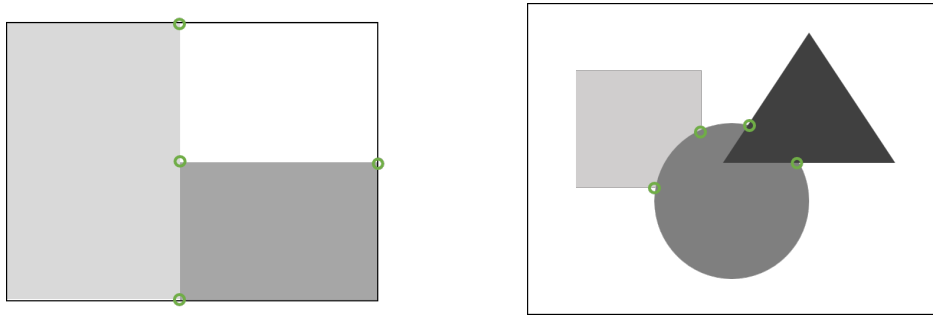

Figure 3: Examples of control points, which are marked with small circles.
**Step 4. Search & label control points.** Here, control point is defined as the intersection or meeting point between edges in the images (Figure 3). These control points will not change their positions (x, y coordinates) in the following steps. This step uses a subroutine (`getCtrlPnts.m`) developed by me to search and label control points.